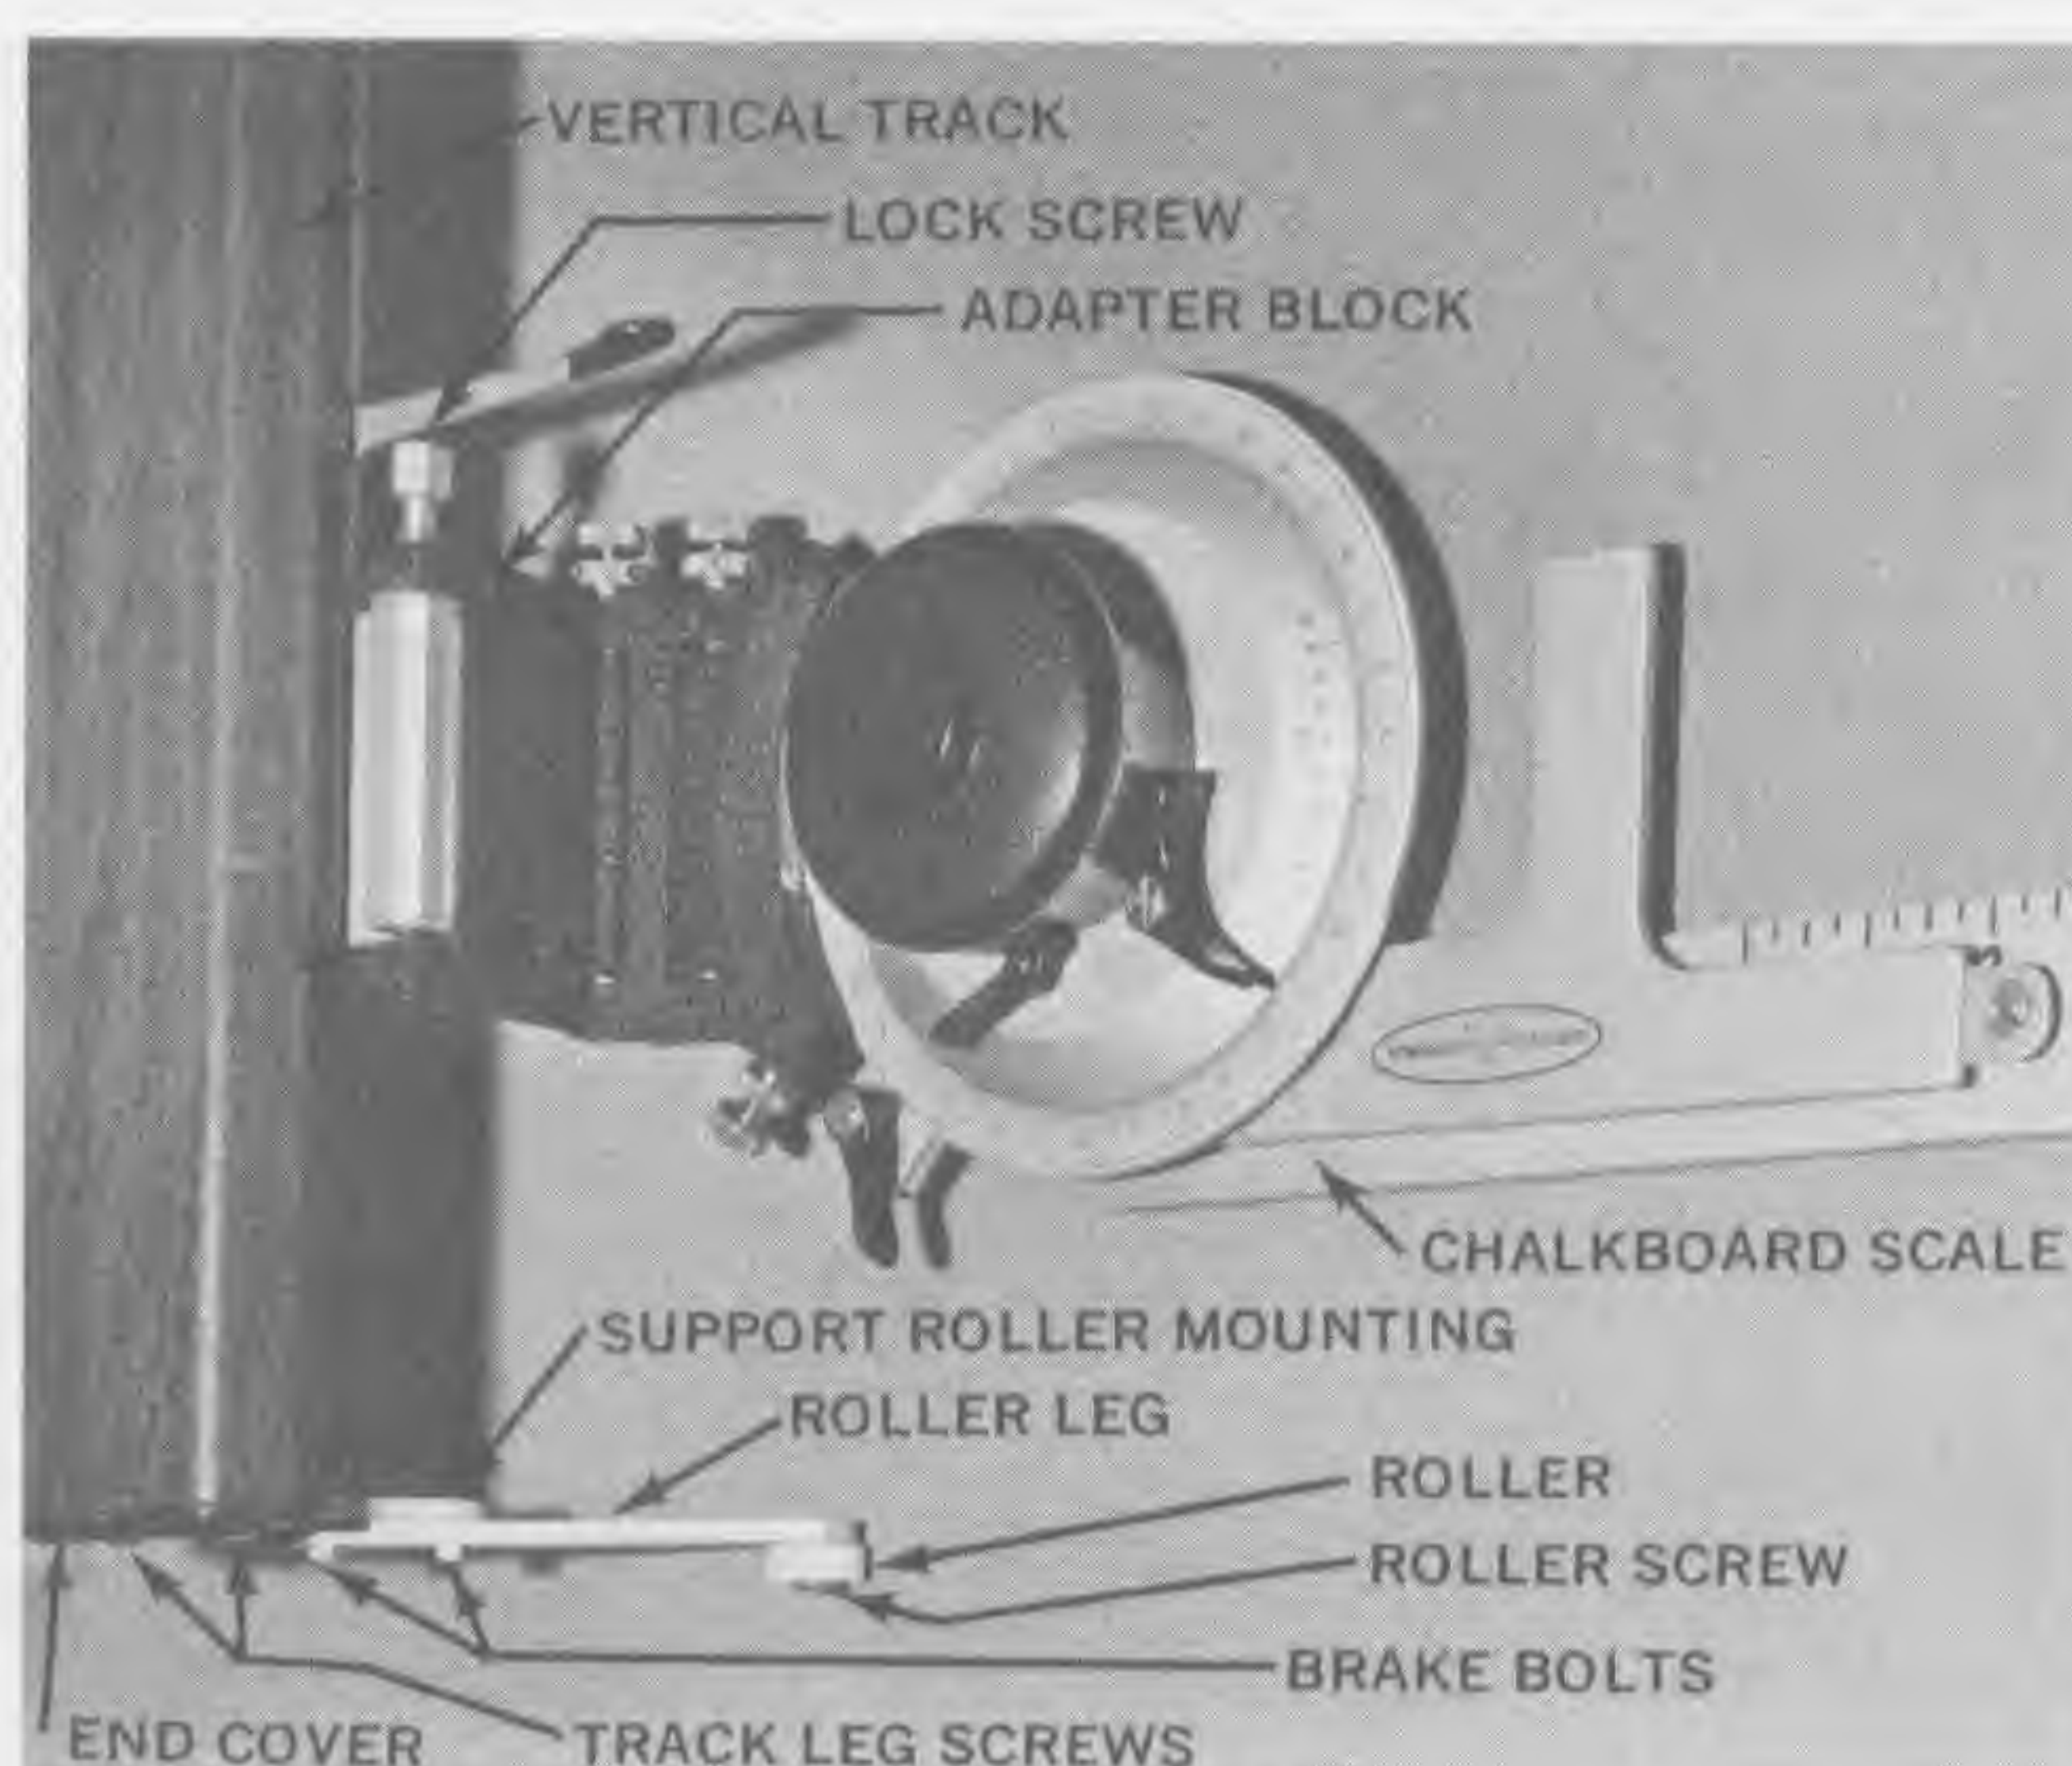

Fig. 29
The protractor head is attached to the adapter block (Fig. 29) by the method described in step 4 on Page 3.
5. Release the brake bolts (Fig. 29) and adjust the roller leg until the pivot joint is parallel to the chalkboard.